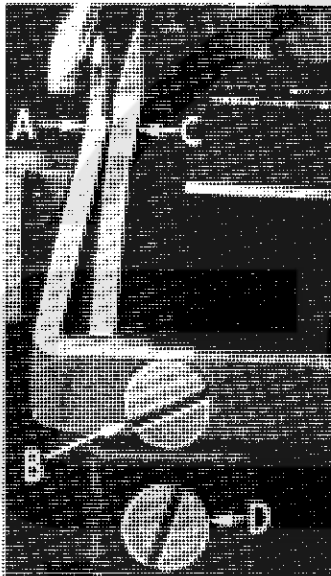

Fig. 7
Set rear needle guard (A, Fig. 7) as high as possible, without interfering with either lower looper or movement of lower knife holder, but still in position to deflect needles forward .002-.004 inch. Screw (B) is used to set rear needle guard. Make sure there is no interference between rear needle guard and lower looper.
Assemble front needle guard (C, Fig. 7). When lower looper is springing needles off rear needle guard, set front needle guard as close as possible to needles without touching. Screw (D) is used to adjust and set front needle guard. After this setting, make sure there is no interference between needle guards and differential feed dog.